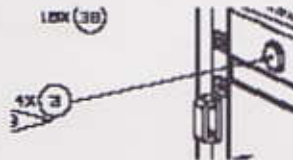

Figure 8
11. Carefully remove four Sill Trunnion Retainers, SDG38117023-001, item 3 in Figure 8. **Caution: Sill Trunnion retainer threads must be protected from any debris or mechanical damage.**